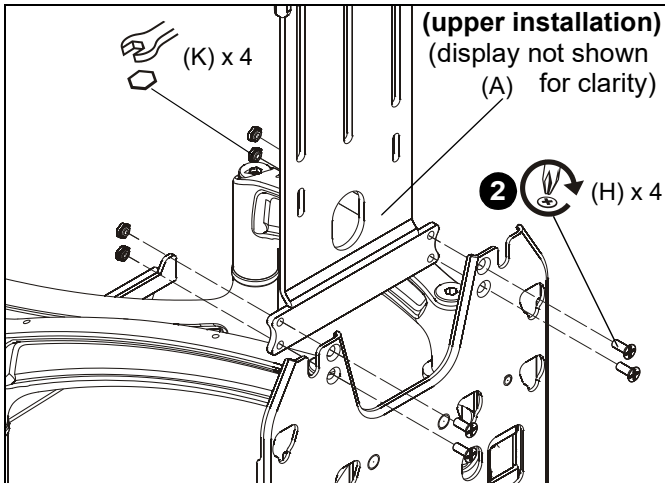
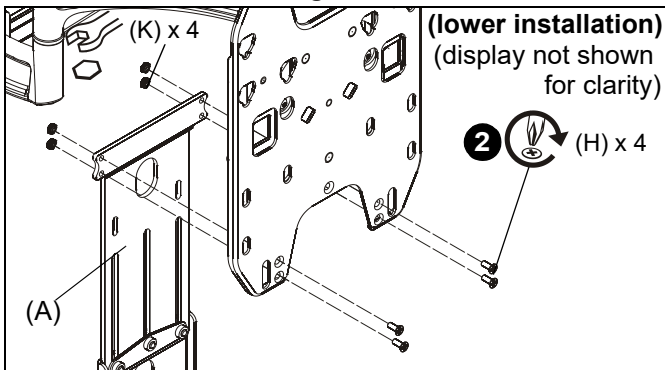

Figure 4
Figure 5
2. Use four #10-24 x 1/2" Phillips head screws (H) and four #10-24 lock nuts (K) to connect hanging bracket (A) to faceplate. (See Figure 4) and (See Figure 5)